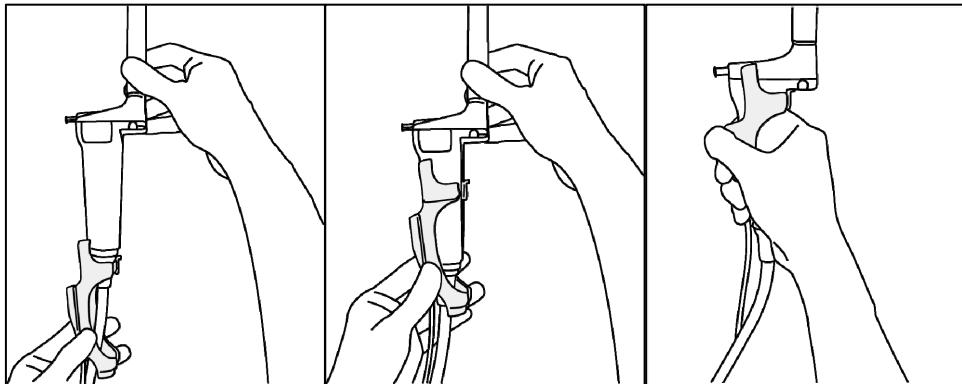

Fig.14 How to attach the Magnetic sensor attachment
- c) Attach the Magnetic sensor attachment to the probe as shown in Fig.14.